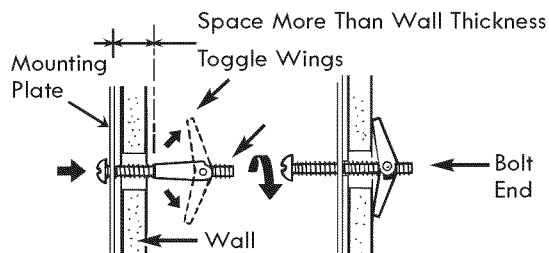

Figure 27
4. Attach the plate to the wall. To use spring toggle head bolts: Remove the toggle wings from the bolts. Insert the bolts into the mounting plate and replace the spring toggle heads to 3/4" past the bolt ends. Insert the spring toggle heads into the holes in the wall to mount the bracket. You may pull forward on the bracket to help in tightening the toggle bolts. Tighten all bolts. See Figure 27.